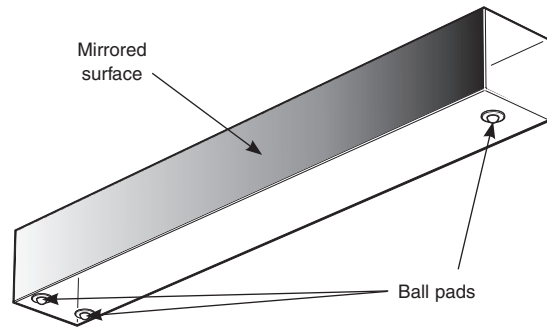

Figure 3: mirror with ball pads
- Locate the stick mirror on the two mounts so that the ball pads on the bottom of the mirror sit in the location features on the mounts (as in Figures 3 and 4). **Note:** two ball pads are located at the adjustable mount end and one at the fixed mount end